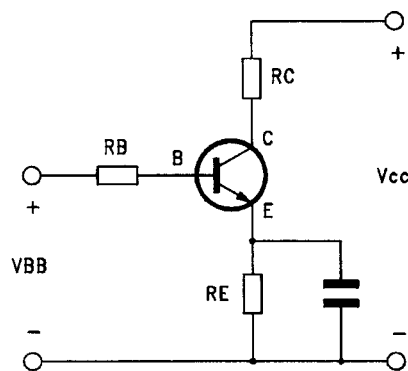

figure B19.3
- in the circuit of fig. B19.3, the emitter is connected to ground (for the a.c. signal), by inserting a capacitor in parallel with R_E